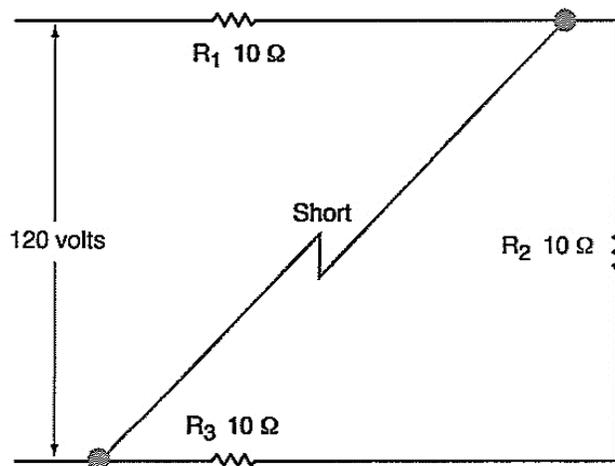
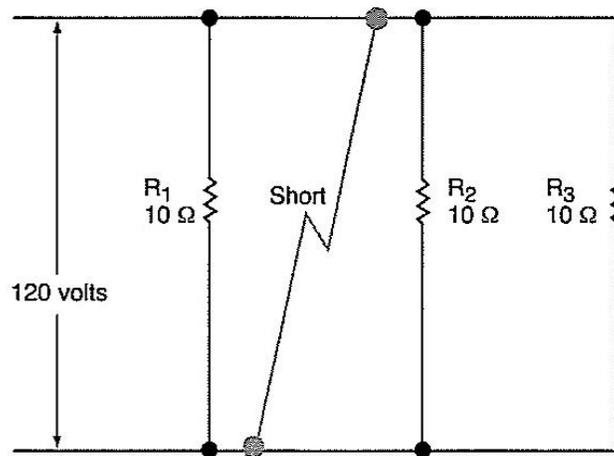

Figure 8.11: Shorted Series Circuit
Figure 8.12: Shorted Parallel Circuit
- 8-65 In the series circuit shown in Figure 8.11, a short has occurred after resistance R_1 . This short has the effect of removing R_2 and R_3 from the circuit, because almost no current flows through them.
8-68 Compare the series circuit in Figure 8.11 with the parallel circuit in Figure 8.12, which has a short at a similar location. The low-resistance short carries a large additional current in the circuit.
8-69 Unlike the short in the series circuit in Figure 8.11, the short in the parallel circuit in Figure 8.12 does not change the current in R_1 , R_2 , or R_3 . Neither does it change the potential difference across these resistors.
8-71 You can see the area of trouble in Figures 8.11 and 8.12. But what if you had to work on an actual installation where the source of the trouble is not so apparent? Is the trouble a short circuit? Or is it an open circuit? And exactly where is the point of trouble?